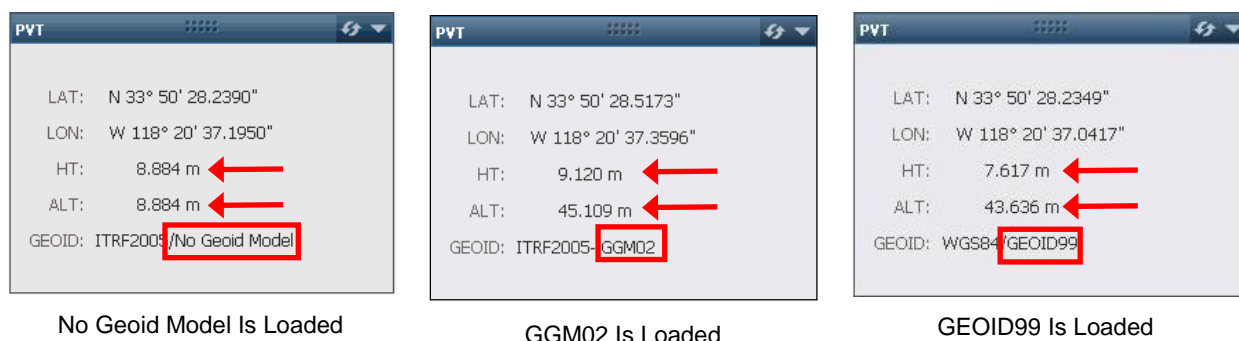

Figure 75: PVT – GEOID
Refer to Figure 75 for the steps below:
7. View the *PVT* window on either the *Dashboard* or the *PVT* tab to confirm the successful upload. *GGM02* is identified as the current *GEOID* (see Figure 75).
9. View the *PVT* window on either the *Dashboard* or the *PVT* tab to confirm the successful upload. *GEOID99* is identified as the current *GEOID* (see Figure 75).